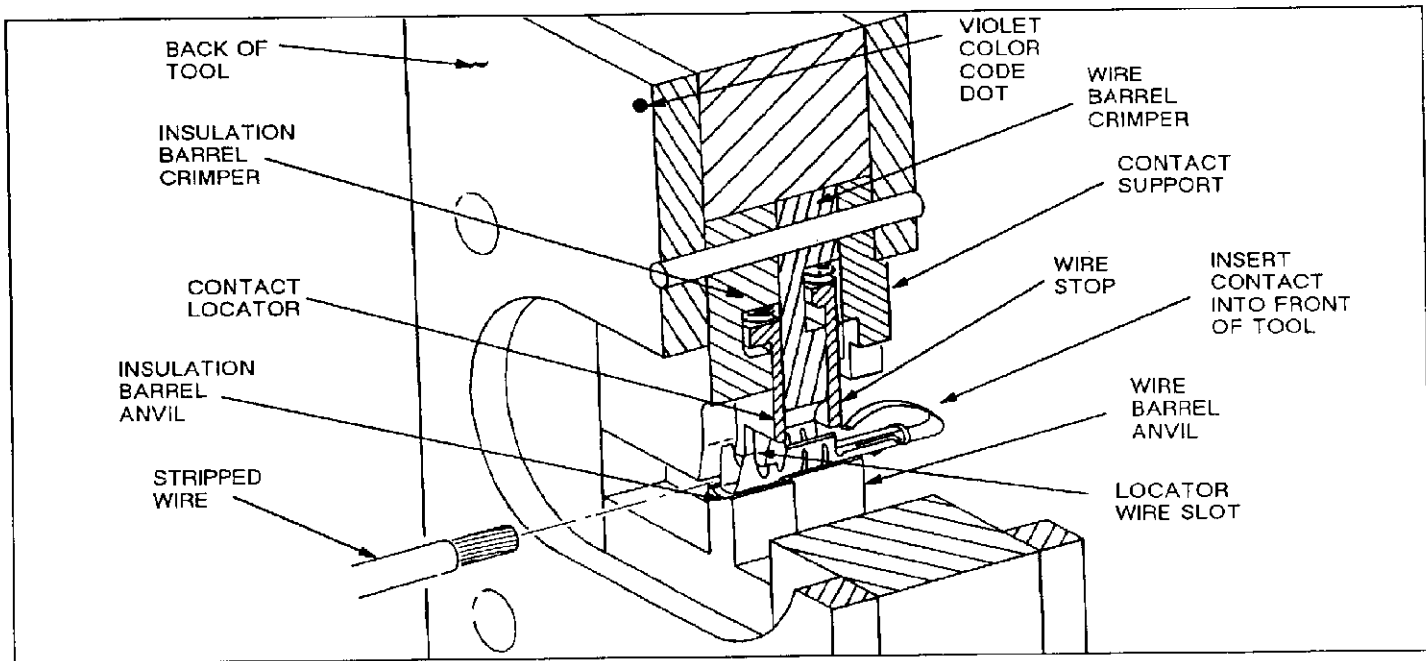

Fig. I-3
The contact locator positions the contact between the crimping dies. In use, it rests in the contact's locator slot. See Figure I-3.
1. Hold the tool so the BACK of it is facing you. See Figure I-3.
3. Looking straight into the crimping dies from the BACK of the tool, insert a contact (insulation barrel first) into the FRONT of the tool. See Figure I-3.
4. Position the contact in the crimpers so that the locator enters the locator slot. See Figure I-3.
6. Insert the stripped wire through the locator wire slot and into the wire barrel of the contact until it butts against the wire stop. See Figure I-3.